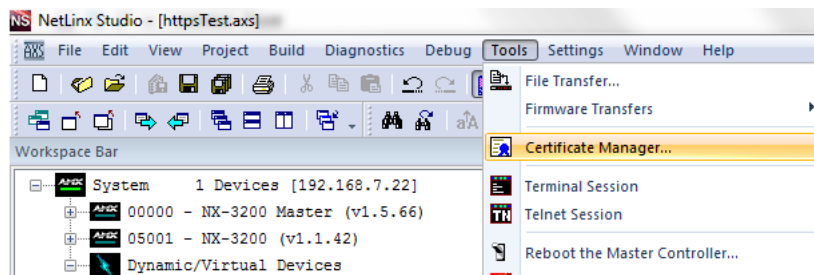

FIG. 477 NetLinx Studio
1. Select **Certificate Manager** from the Tools menu in NetLinx Studio (FIG. 477):